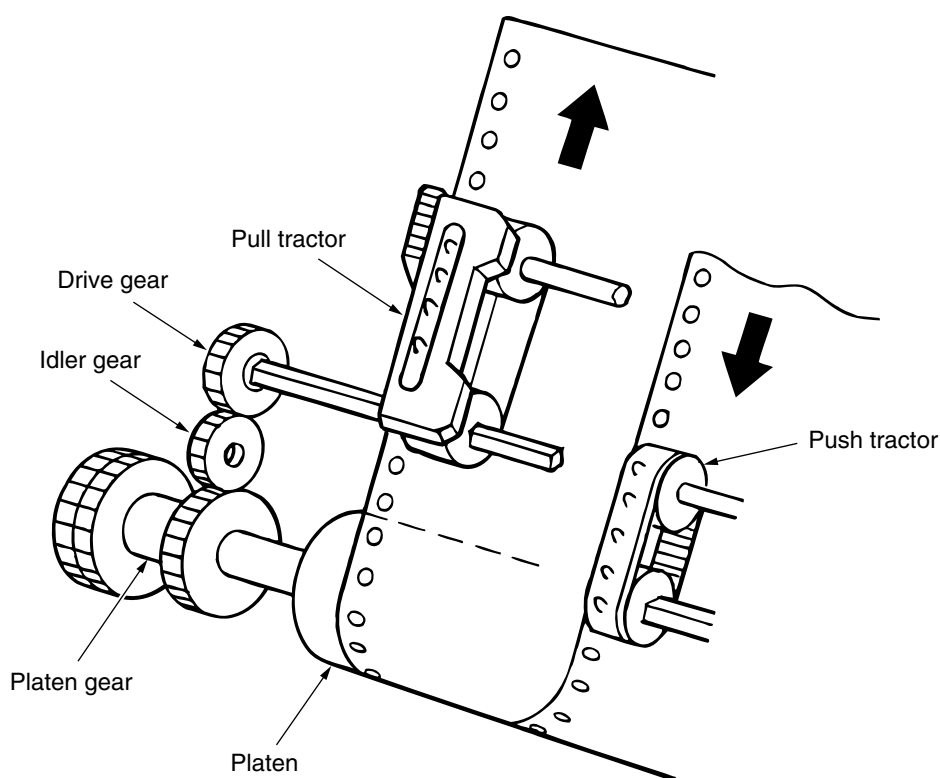

Figure 2-11
(5) Push and pull tractor mechanism (option) (See Figure 2-11.)